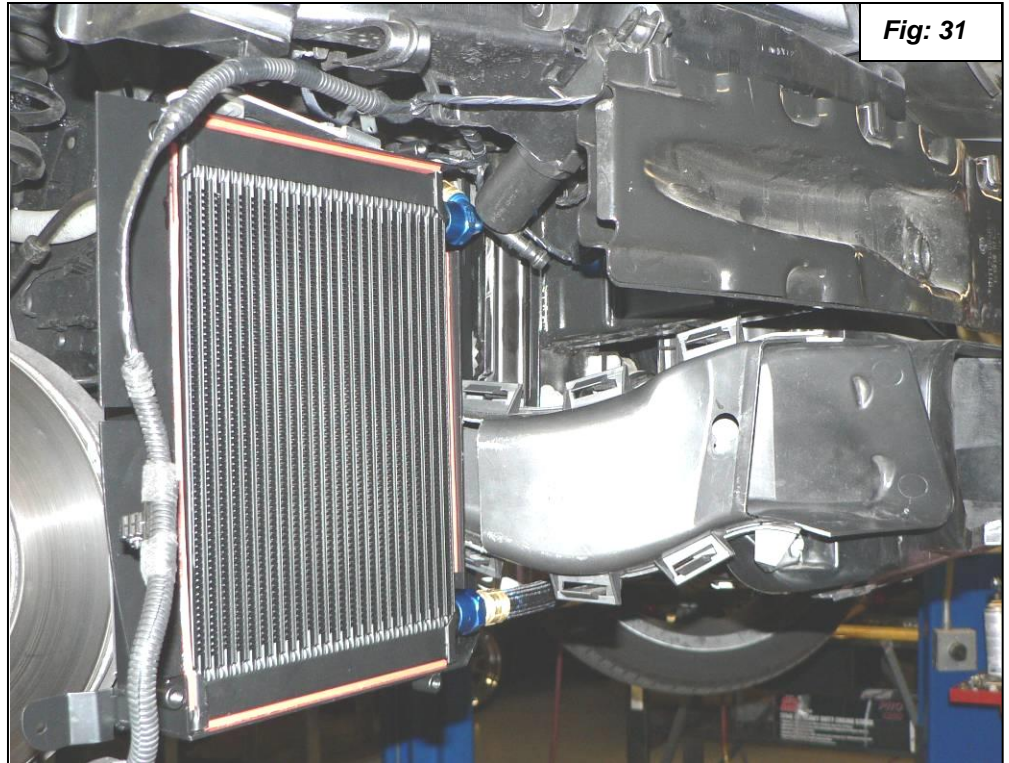

Fig: 31
32. Install the modified brake duct and check for clearance. With the oil cooler in a relaxed position you should have about 1/2" clearance as shown in figure 31.